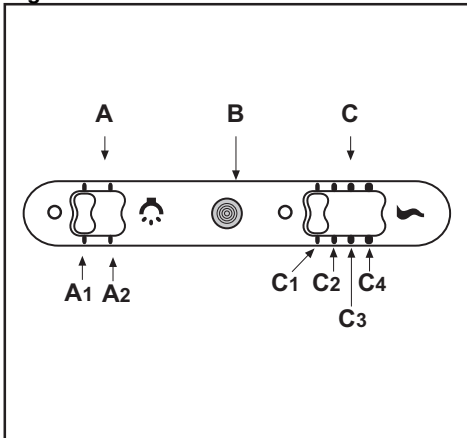

Fig.8
• **COMMANDS:** (Fig.8) **SLIDER** the key symbols are explained below: